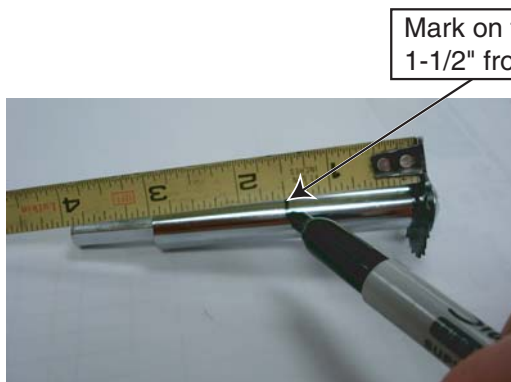
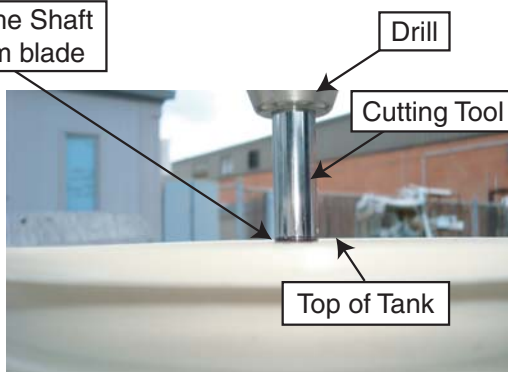

Figure 1.
Figure 2.
2. **CUT STAND PIPE:** Using a Brass Craft PVC cutting tool, Model T109, (Pentair P/N 274429), place a mark on the shaft 1-1/2 inches from the cutting blade, (see Figure 1). Chuck the tool into a drill. **WARNING! USE EXTREME CAUTION:** Insert the cutting blade into the stand pipe located in the filter, with the mark on the shaft even with the top of the tank, (see Figure 2).